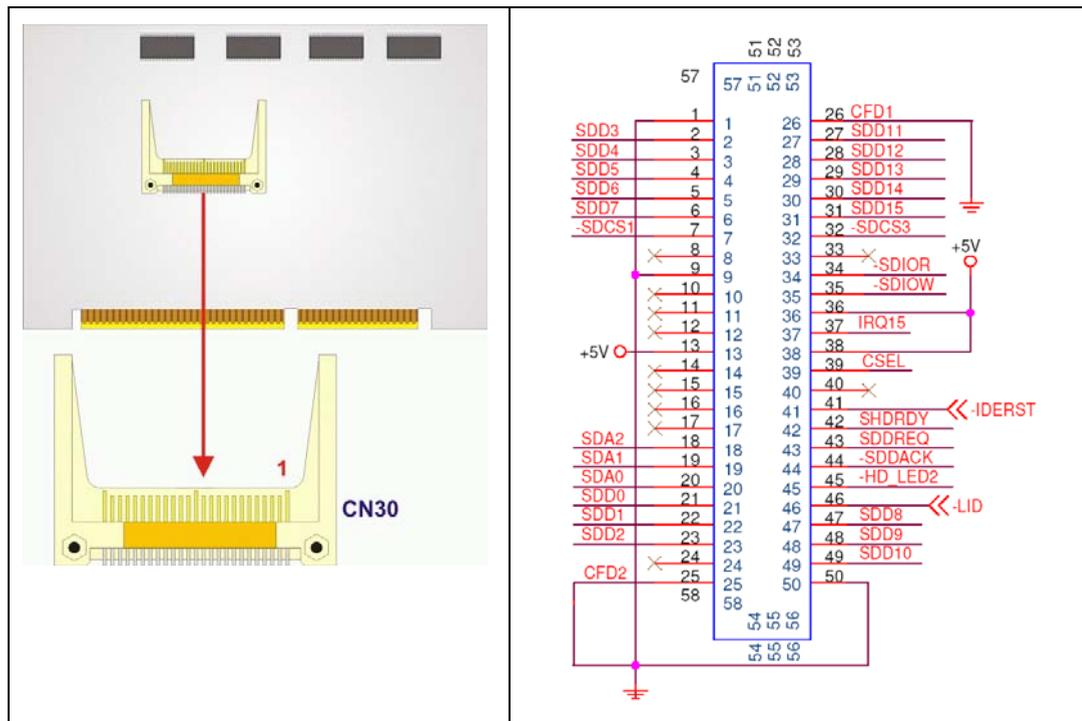

Figure 4-9: CF Card Socket Location
- CN Location:** See Figure 4-9